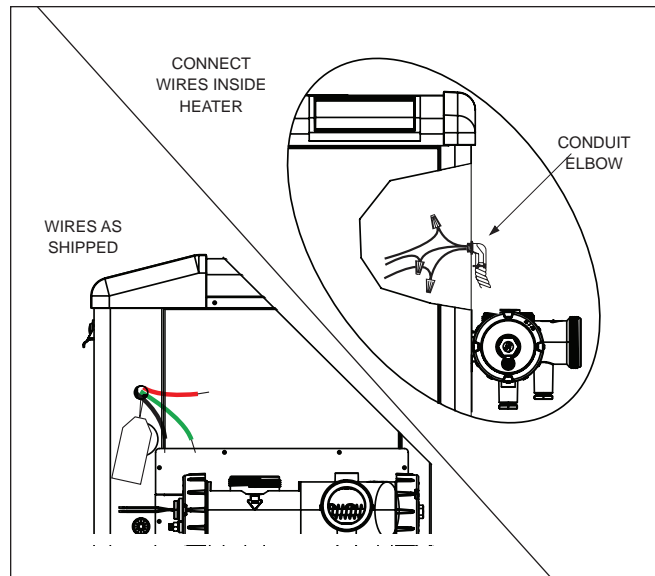

Figure 19. Field Wiring Connections
2. Connect the wires from the power source to the leads on the right side of the heater in the space behind the raceway. See Figure 19.